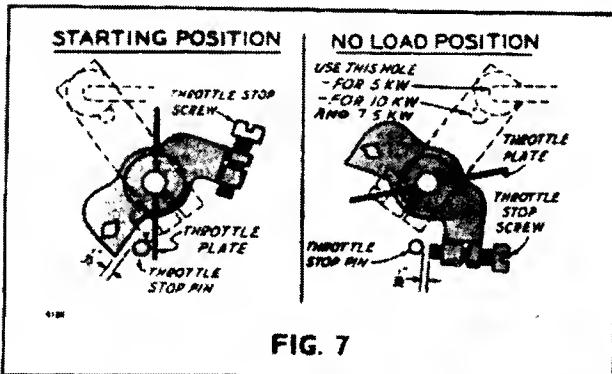

FIG. 7
- With the plant stopped, the clearance between the carburetor stop lever should be approximately  $1/32''$ , Fig. 7. This clearance can be adjusted by turning the ball joint on the link.